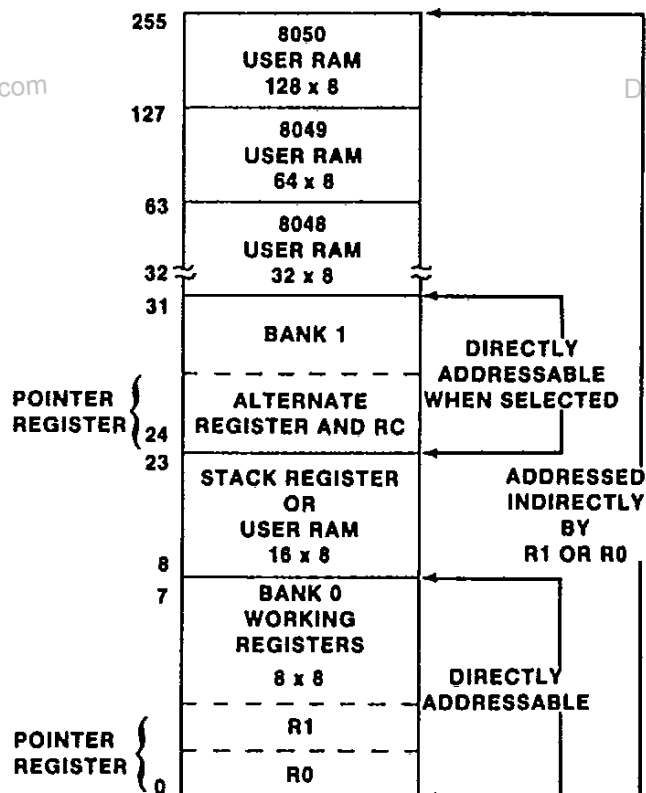

FIGURE 3. 48-Series Resident RAM Data Memory Map
The resident RAM data memory is arranged as 64 (INS8035/8048), 128 (INS8039/8049) or 256 (INS8040/8050) bytes. RAM addressing is implemented indirectly via either of two 8-bit RAM pointer registers R0 and R1. These pointer registers are essentially the first two locations in the RAM (see *Figure 3*), addresses 000 and 001. RAM addressing may also be performed directly by 11 direct register instructions. The pointer register area of the RAM array is made up of eight working registers that occupy either the first bank (0), locations (0 to 7), or the second bank (1), locations 24-31. The second bank of working registers is selected by using the Register Bank Switch instruction (SEL RB). If this bank is not used for working registers, it can be used as user RAM.